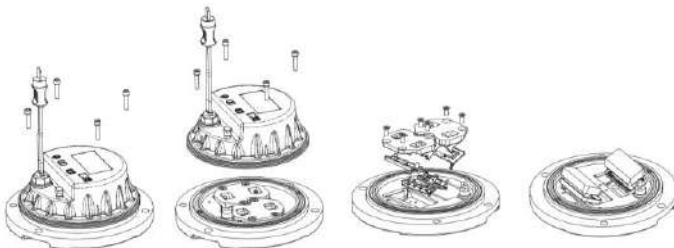

Figure 4-4 Figure 4-5 Figure 4-6 Figure 4-7
- Place the top of the lighting fixtures downwards and dismount 4 M5×25 hexagon socket cap screws (Figure 4-4).